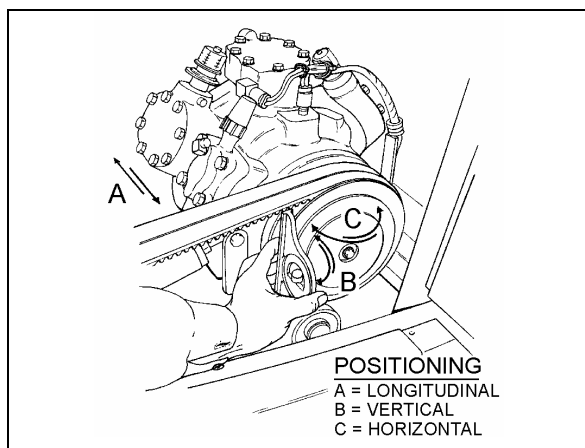

FIGURE 21: COMPRESSOR ALIGNMENT
1. Rest an extremity of a straight edge of approximately 46 inches (117 cm) against the upper part of the outer face of crankshaft pulley, positioning the other end close to the compressor clutch pulley (Figs. 21 & 22).
Rest a short "angle and level indicator" on the outer side face of the crankshaft pulley, adjust the level indicator inclination at 0° and check if the compressor pulley is at same angle (Fig. 21). If it is not the same, shim under the appropriate pillow block in order to obtain the correct angle.